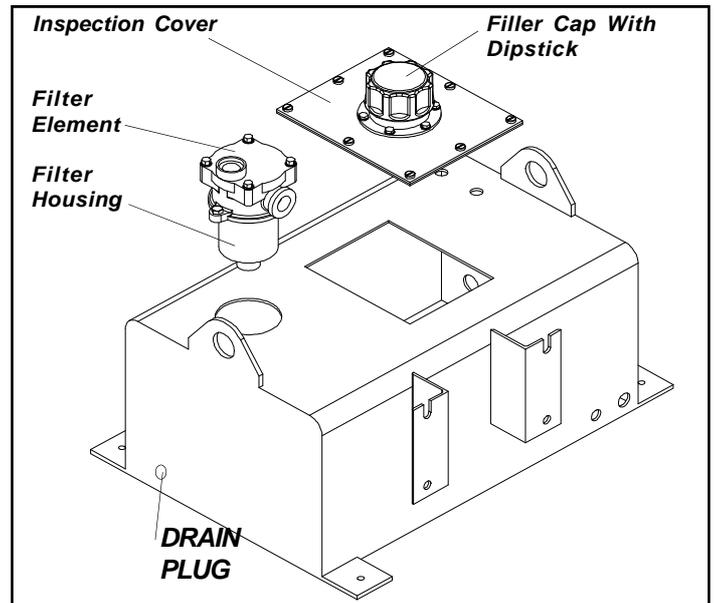

Figure 3-26: Hydraulic Oil Tank
To replace the filter element undo the 4 screws at the top of the filter body. Refer to figure 3-26. The element is retained by means of the o-ring seal. Do not remove the replacement element wrapping until required - invisible contamination can cause damage to hydraulic components.
2. Remove the inspection cover as shown in Fig. 3-26. Use a barrel pump or similar device to remove the oil from the tank. Alternatively the tank may be removed from the machine and the drain plug used to empty the oil.